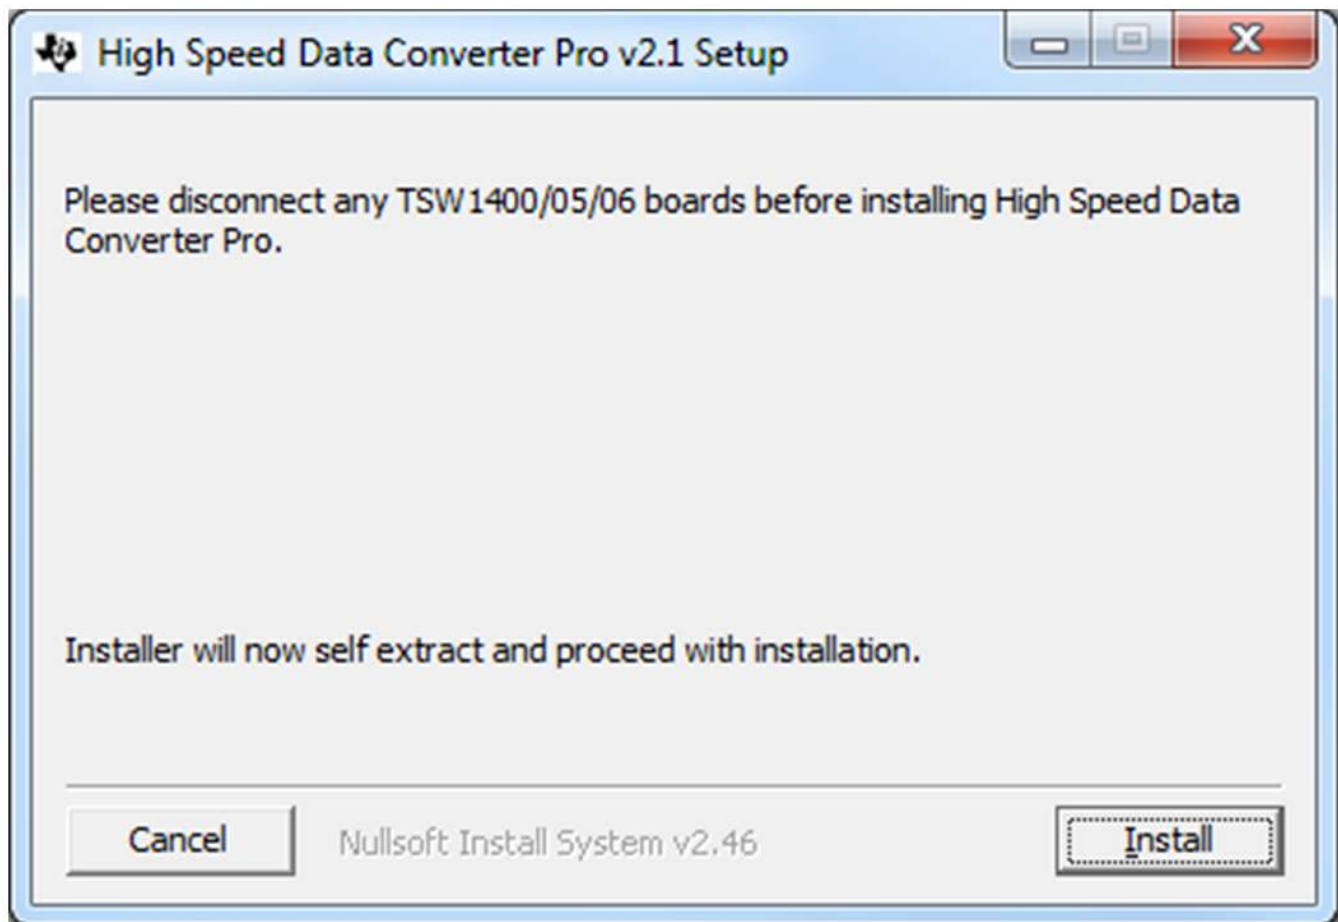

Figure 21. HSDCPro Install (Begin)
- Unzip the saved folder and run the installer executable to obtain the pop-up shown in Figure 21.